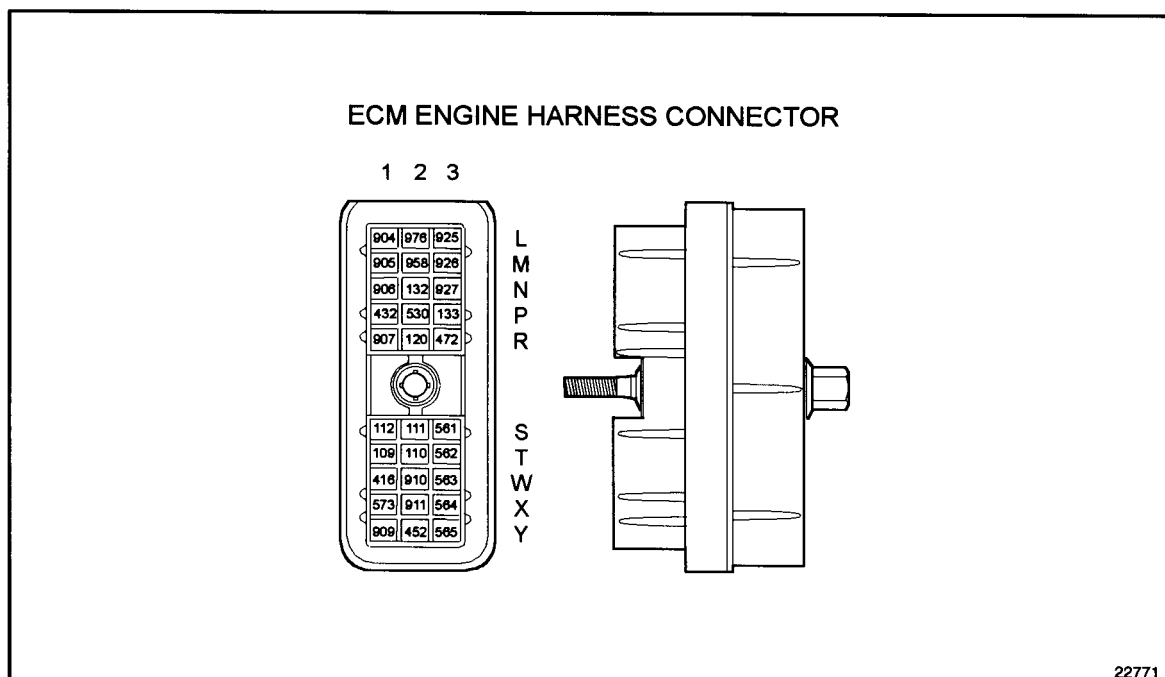

Figure 33-6 ECM Engine Harness Connector
3. Measure resistance between sockets P1 and W1 on the engine harness connector. See Figure 33-6.